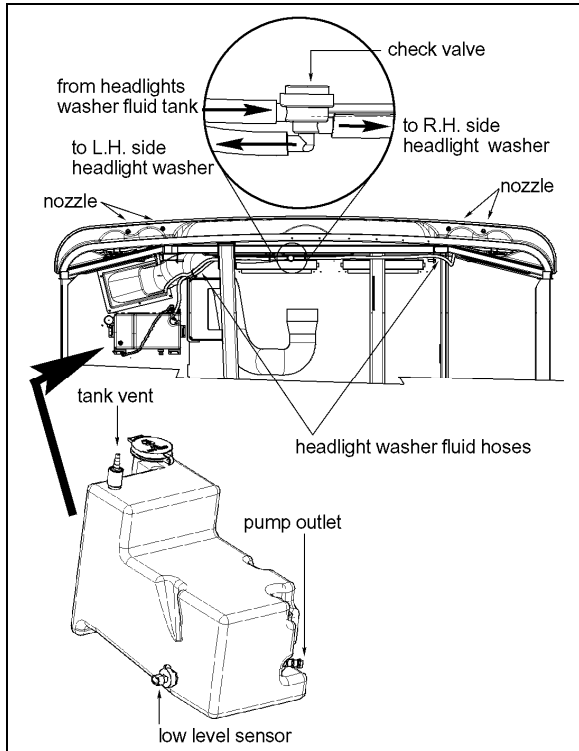

FIGURE 30: HEADLIGHTS CLEANING SYSTEM 23380
Turn the multifunction lever forward to activate windshield wipers (item 2, fig. 30). The first position operates the wipers at low speed and the second position operates the wipers at high speed. Turning the lever backwards will operate the wipers in the intermittent mode.
The windshield washer pumps are electrically operated and are controlled by a washer control ring on the multifunction lever (item 1, fig. 30).